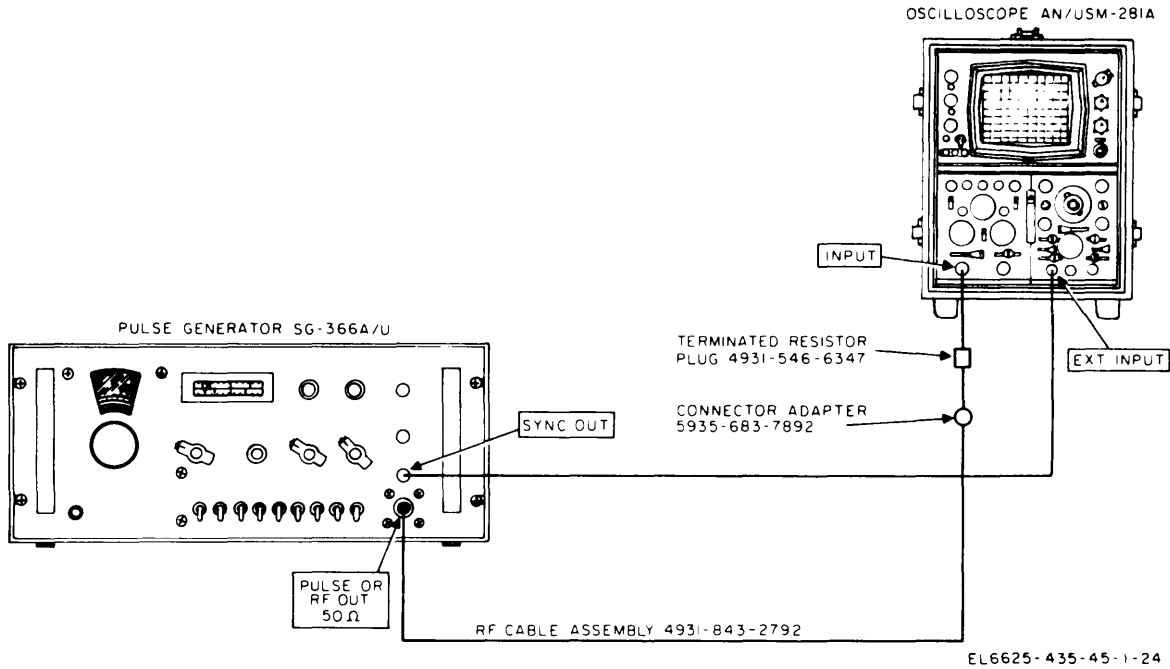

Figure 4-4. Continuous Wave Amplitude Test, Equipment Setup.
- b. Test Connections and Conditions. Connect the equipment as shown in figure 4-4.